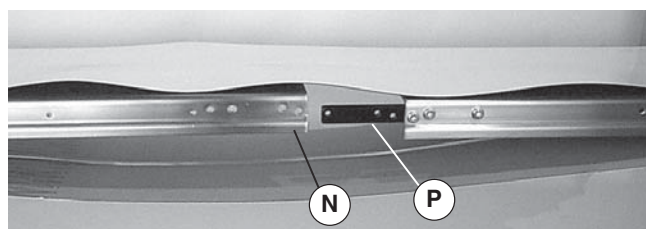

Figure 6
4. Place conveyor frame (Figure 6, item N) into belt loop.